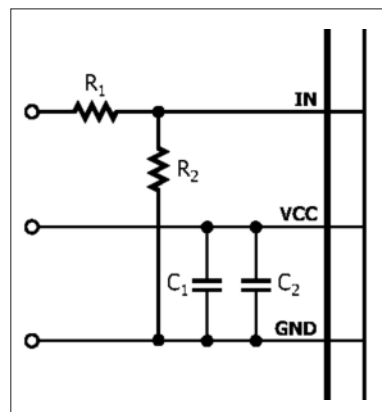
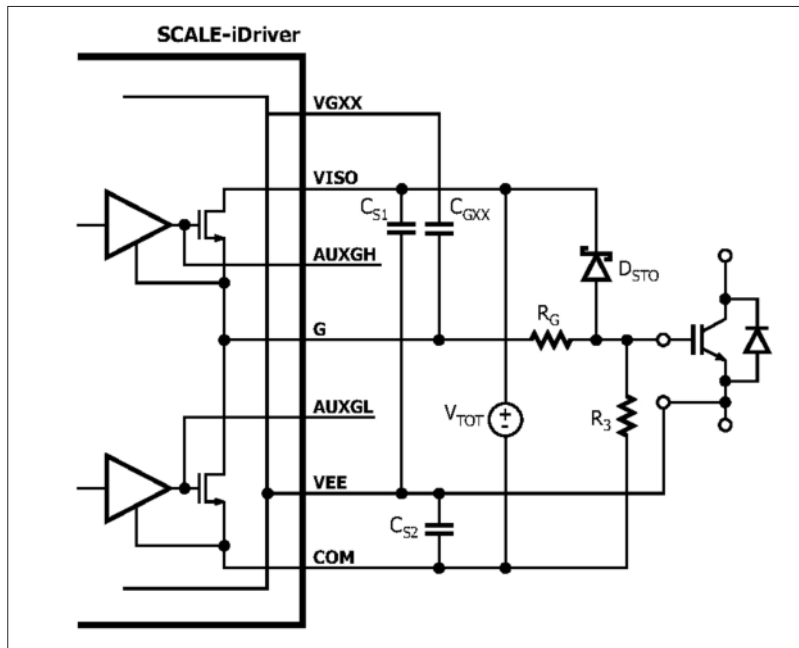

Figure 3: Recommended circuitry for increased IN logic levels (for $R_1 = 3.3 \text{ k}\Omega$ and $R_2 = 1 \text{ k}\Omega$ the IN Logic Level is 15 V)
Figure 4: SID1102K without external booster stage incorporating gate resistor R_G
If the physical distance between the controller and the iDriver is large or if a different logic level is required, the resistive divider in Figure 3 is recommended. This solution adjusts the logic level as necessary and will also improve the driver's noise immunity.
The gate of the power semiconductor switch should be connected to the iDriver output via pin G, using a suitable gate resistor R_G as shown in Figure 4.
Figure 4 show the schematic and typical components used for a SID1102K design without a booster stage, in which the primary-side supply voltage (V_{CC}) will be connected between VCC and GND pins and supported through supply bypass ceramic capacitors C1 (4.7 μ F typically) and C2 (470 nF typically). If the command signal voltage level is higher than the rated IN pin voltage, a resistive voltage divider should be used (Figure 3).
Additional capacitor CF can be used to provide input signal filtering as shown in Figure 4. The filter time τ can be calculated according to equation (1):
To avoid parasitic power-switch-conduction during system power-on the gate is connected to COM through 22 kΩ resistor R₃, as shown in Figure 4.